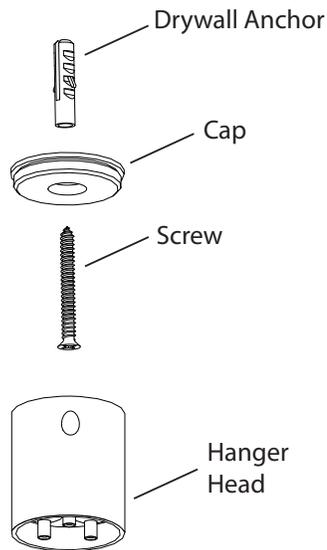

Fig. 2a
1. Mount the Triple Ceiling Hangers (2) by first installing the Caps onto the ceiling 35" apart (Fig. 2d) using the supplied Screws. Use provided Drywall Anchors if no joist is present (Fig. 2a).